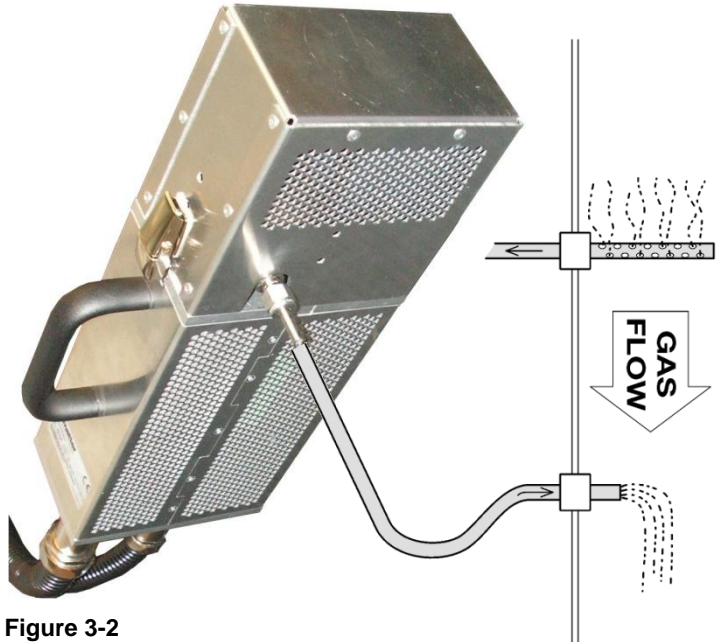

Figure 3-2
2. Hold the back of the control unit housing and carefully pull the Thermodiluter module forward and free of the housing (see Figure 3-2).
An example for how to mount the Thermodiluter head is shown in Figure 3-2. The sample inlet tube should be kept as short as possible while the raw gas return path can be longer.
More attention should be paid to inhomogeneous particle concentration across the tail pipe or stack diameter. To compensate its influence, a sampling probe according to Figure 3-2 is recommended. The exhaust is sampled through holes of 1...2 mm diameter for averaging the sampling across the tail pipe or stack diameter.